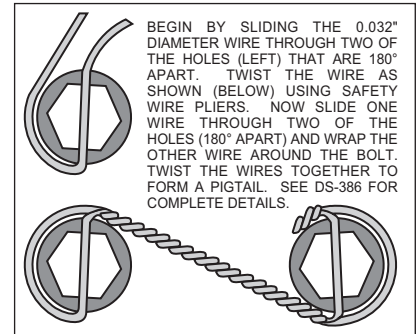

Figure 3. Safety Wire Diagram
- With the larger I.D. side of the rotor (3) facing away from the hat (4), bolt rotor (3) to hat (4) through the backside of the rotor using washers (5) and bolts (6). Be sure all bolts thread in smoothly and are snug. Then, torque all bolts in an alternating sequence to 103 **in-lbs**. The rotor mounting bolts (6) must be lockwired using standard 0.032 inch diameter stainless steel safety wire as shown in Figure 3. Please refer to Wilwood's data sheet DS-386 (available at www.wilwood.com/Pdf/DataSheets/ds386.pdf) for complete safety wire installation instructions.